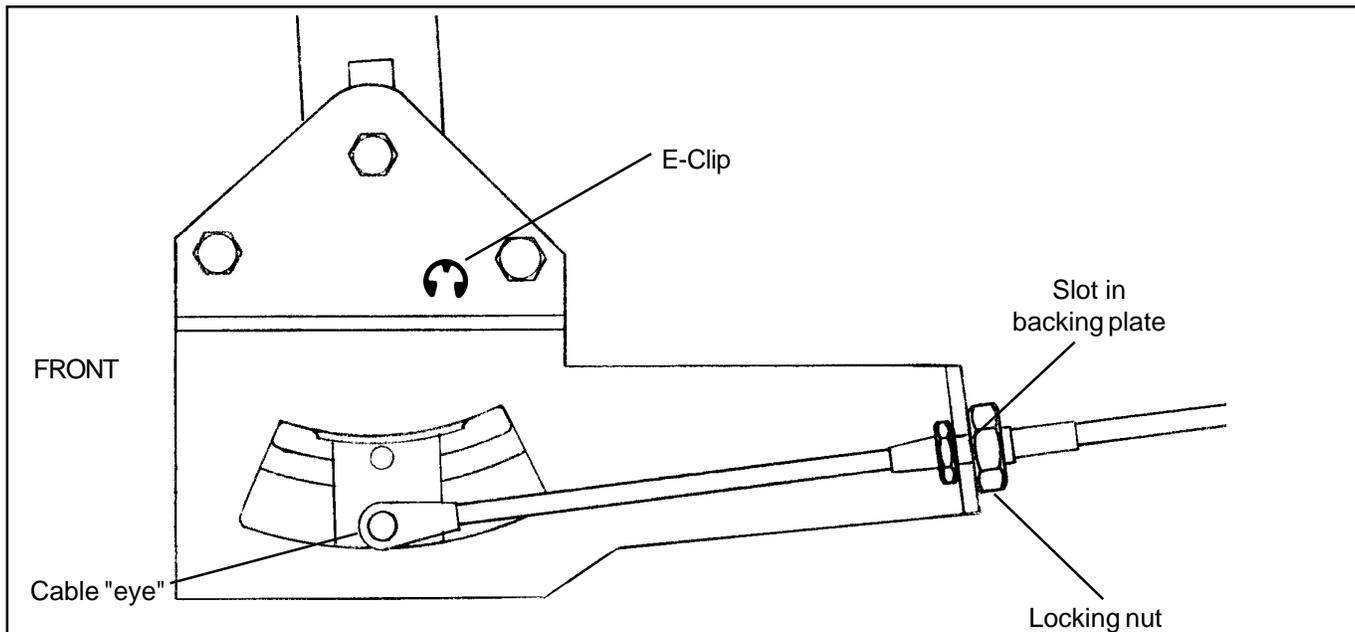
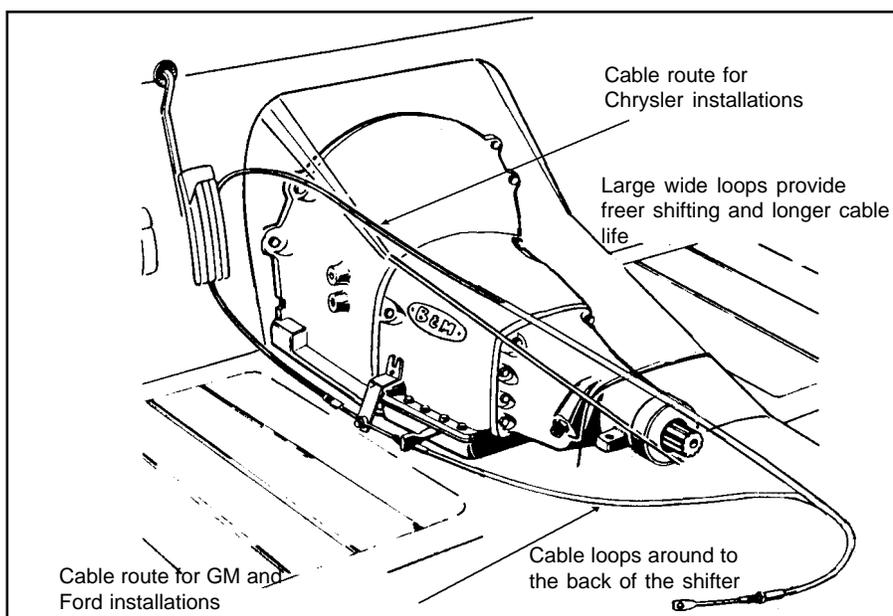

Figure 1
Figure 2
and slide the cable into the slot on the shifter backing plate (**See Figure 1**). Put the "eye" over the cable pin. Tighten the locking nut on the cable to 10 lb-ft. Do not overtighten. Use the supplied e-clip to hold the "eye" in place. **STEP 7.** Check that the shifter moves through all the gear positions and that the other end of the cable moves in and out. Route the cable to the transmission as shown in **Figure 2** to avoid sharp bends or damage to the cable. For GM and Ford transmissions route the cable to the transmission from the rear. For Chrysler transmissions the cable must be looped around to the front side of the transmission.
STEP 10. Route the shifter cable according to Figure 2. Avoid kinks and sharp bends and route the cable away from hot engine or exhaust parts. The cable may be secured up and out of the way with nylon cable ties.
STEP 16. Route the shifter cable according to Figure 2. Avoid kinks and sharp bends and route the cable away from hot engine or exhaust parts.
STEP 22. Route the shifter cable according to Figure 2. Avoid kinks and sharp bends and route the cable away from hot engine or exhaust parts.